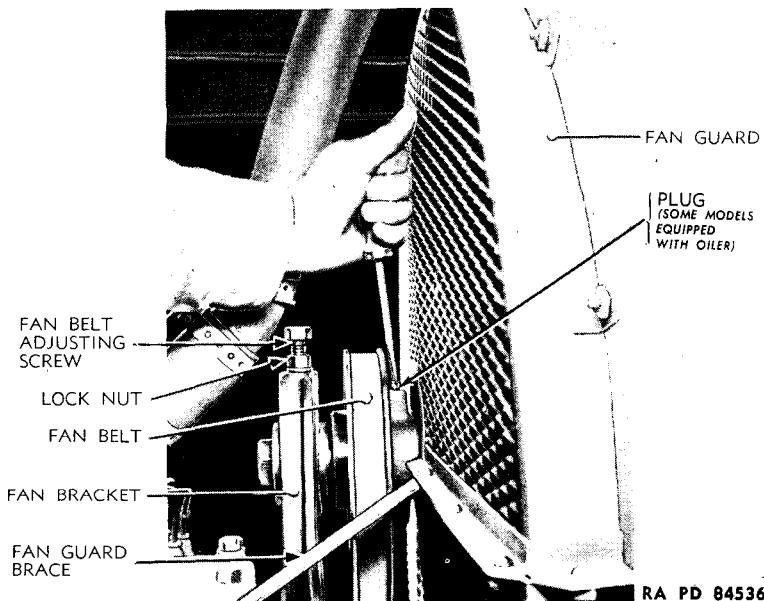

Figure 24—Fan Hub Screw Plug Grease Fitting
c. Maintenance. The fan does not need special attention. Screws should be kept tight, and the whole assembly kept clean and properly lubricated (fig. 24).
(1) REMOVE FAN BELT FROM PULLEY. Loosen lock nut on